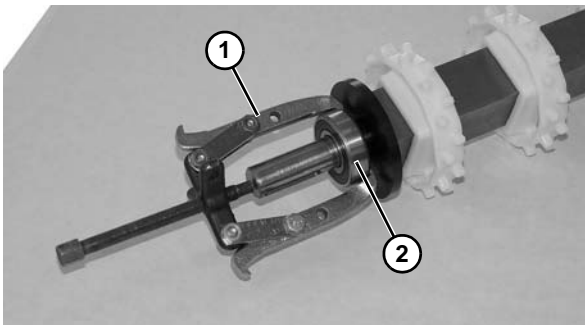

**Figure 56**
10. Remove gap filler plates (Figure 56, item 1) from crossmember (Figure 56, item 2).